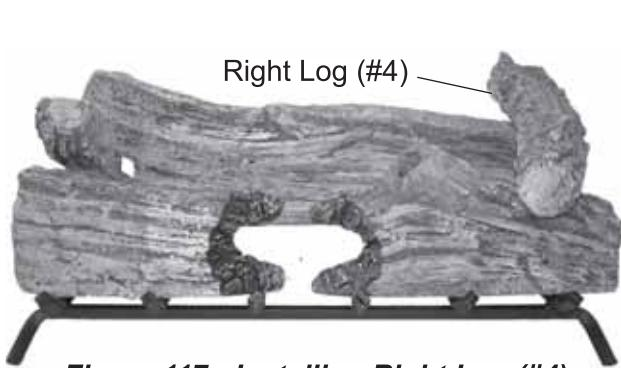

Figure 117 - Installing Right Log (#4)
6. Rest front end of Right Log #4 on right top of Log #1B. The back end of Log #4 rests to right hump on Log #3. See Figure 117.